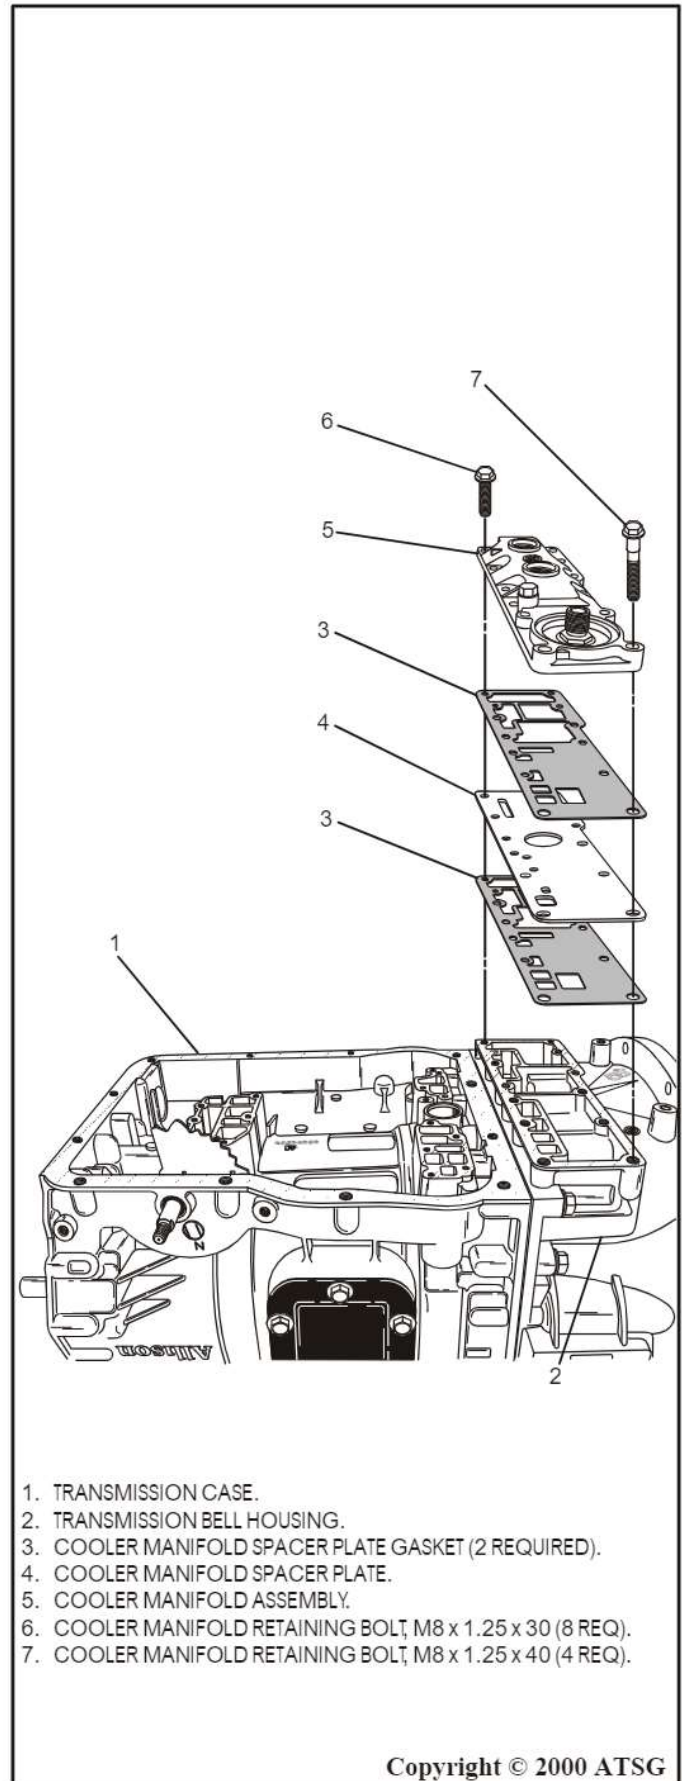

Figure 54
20. Remove the cooler manifold assembly retaining bolts, as shown in Figure 54.
21. Remove the cooler manifold assembly from the bell housing, as shown in Figure 54.
22. Remove and discard the 2 cooler manifold gaskets, as shown in Figure 54.